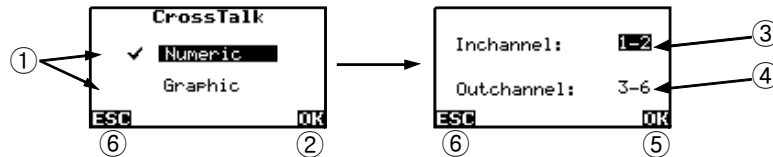

Figure 19 Selecting Crosstalk Test
- ① To change the input channel and measuring channel, press **F1**. (See Figure 19)
- ② Mode indicator for . It also shows the current setting. To change its mode, press **MODE**. (See Section 8.6)
- ③ Distance (between Cursor1 and Cursor2) or VOP. To swap them, press **F2**.
- ④ Cursor1 and Cursor2. To move them, use with its mode set to "CURSOR1" and "CURSOR2" respectively. (See Section 8.6)